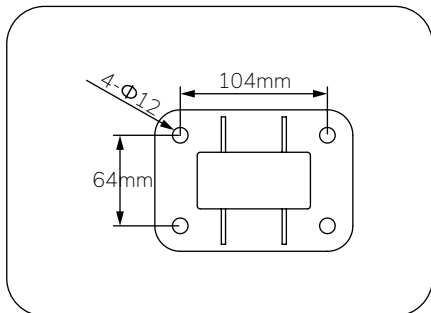

Figure 19
1. Make 4 holes ( $\Phi 12 \times 120$  mm) on the base as shown in Figure 19 (units in mm).